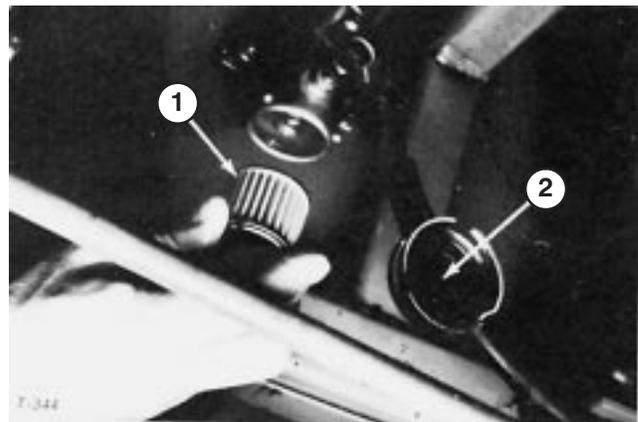

Figure 39
3. Place a drain pan under fuel pump and remove cover from fuel pump with 17 mm wrench (Fig. 39). Take care not to damage wire while removing cover.
4. Pull filter out of pump body (Fig. 39).
7. Clean magnet of any residue (Fig. 39), insert filter into body and install cover.